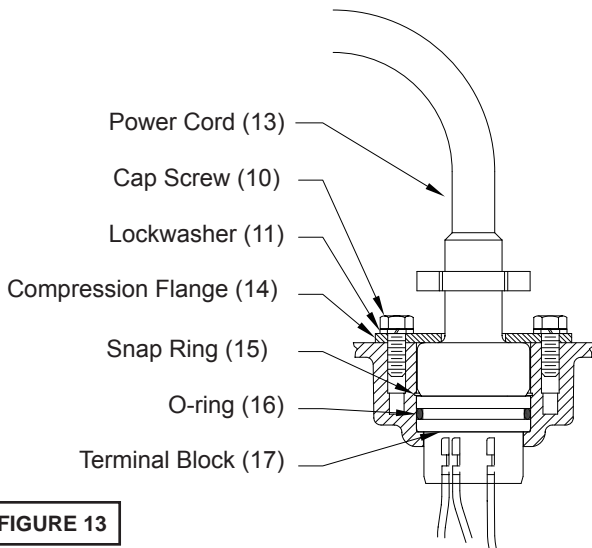

FIGURE 13
Check power cable (13) for cracks or damage and replace if required (see Figure 13). Make internal wiring connections which are independent of the terminal block as shown, using connectors (36) as required. Do not use wire nuts. Slip motor leads and ground wire through fiberglass sleeve. Lower motor housing (5) down onto seal plate (4) while aligning holes and stringing motor leads through the cable entry bore. (Slipping cord inside a 1 ft. length of .5" conduit makes this easier). Place socket head cap screws (32) through seal plate (4) into motor housing (5) and torque to 60 in-lbs. Reconnect motor and leads to the underside of the terminal block (17), as shown in Figure 13. Note that the pins are numbered underneath the terminal block. Place o-ring (16) into groove in terminal block and lubricate with dielectric oil. Press the terminal block (17) into the housing so it seats completely below the snap ring groove. Place snap ring (15) into groove